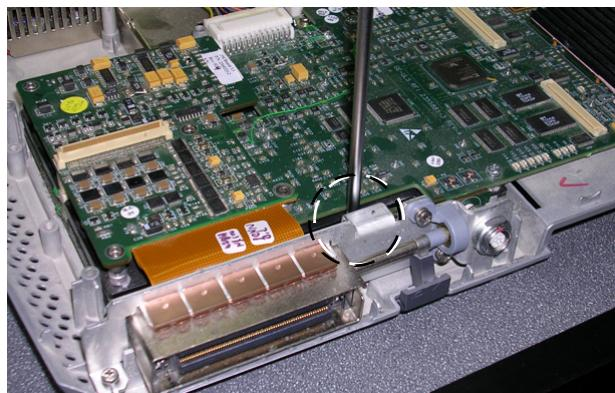

Figure 8-23 Loosening the Screws from the P&M Board
- 3.) Loosen the two screws that fasten the P&M Board to the Bottom Assembly, as shown in Figure 8-23 below.
- 1) Return a new P&M Board to the system, pushing it *downwards* into position on the Bottom Assembly. Make sure it is properly seated before returning and fastening the two screws (previously removed). Refer to Figure 8-24 and Figure 8-23, above.